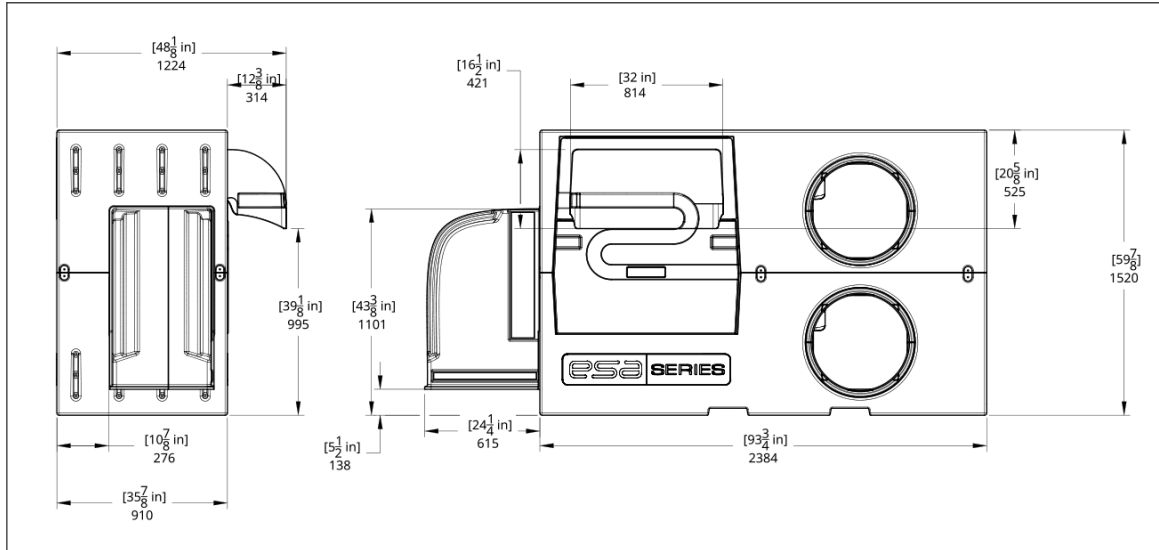

Figure 5 Dimensions for each ESA-3000
- **Dimensions** : 93-3/4" (length) 59-7/8" (height) 35-7/8" (depth); see Figure 5